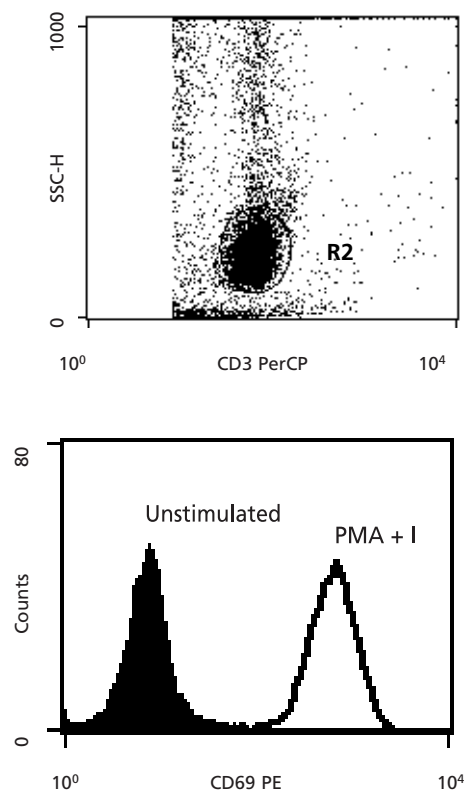

Figure 2 Intracellular staining control
3. Analyze results by fluorescence triggering on FL3 and assessing CD69 staining in the CD3 gated events. Intracellular staining for CD69 should be greater than 90% positive (Figure 2).